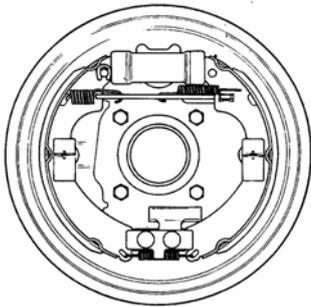

FIG.16-50
(2) Assemble components according to the reverse procedure of removal. (FIG.16-50)